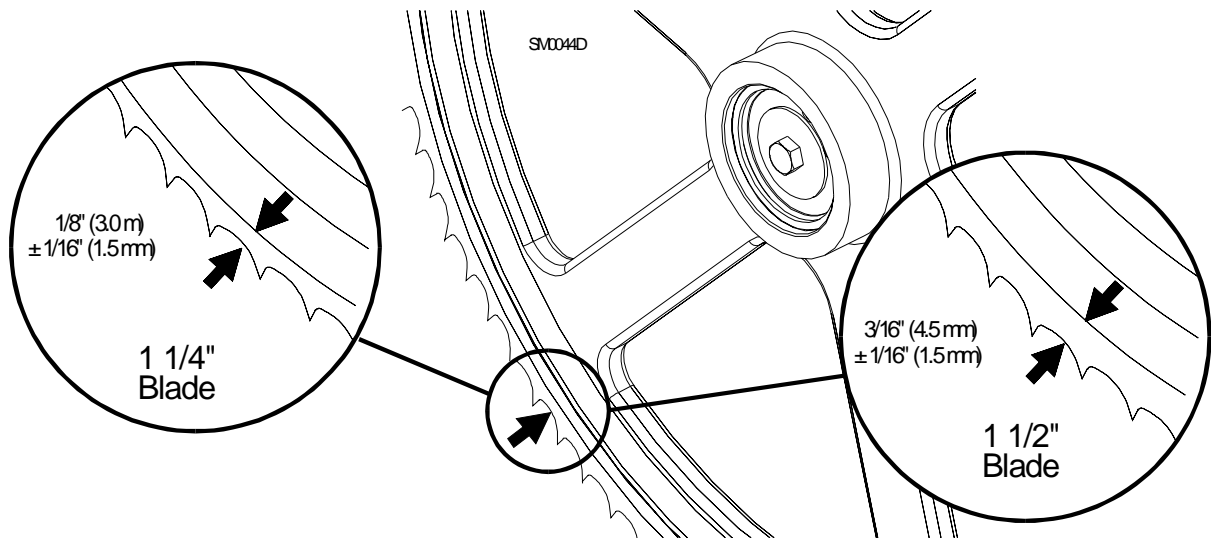

**FIG. 5-22**
**See Figure 5-22.** Use the vertical adjustment screws to adjust the idle-side blade wheel. To tilt the wheel up, loosen the bottom adjustment screw one quarter turn. Loosen the jam nut on the top adjustment screw and tighten the screw. Tighten the top and bottom jam nuts.